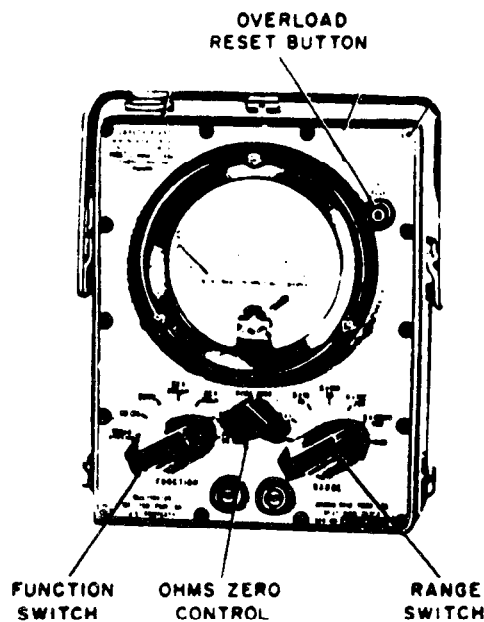

Figure 6. AN/PSM-6A and AN/PSM-6B operating controls.
#### 17. AN/PSM-6A and AN/KM-6B controls (fig. 6)
*b. Overload Reset Button (AN/PSM-6A and AN/PSM-6B Only)* (fig. 6). The OVERLOAD RESET button is inoperative in the AN/PSM-6A. Refer to Multimeter ME-70B/PSM-6A (para 9). The OVERLOAD RESET button on the AN/PSM-6B indicates red when an overload has occurred. The overload protective system is reactivated by disconnecting the test leads from the circuit under test and depressing the OVERLOAD RESET button so that the red indication disappears.